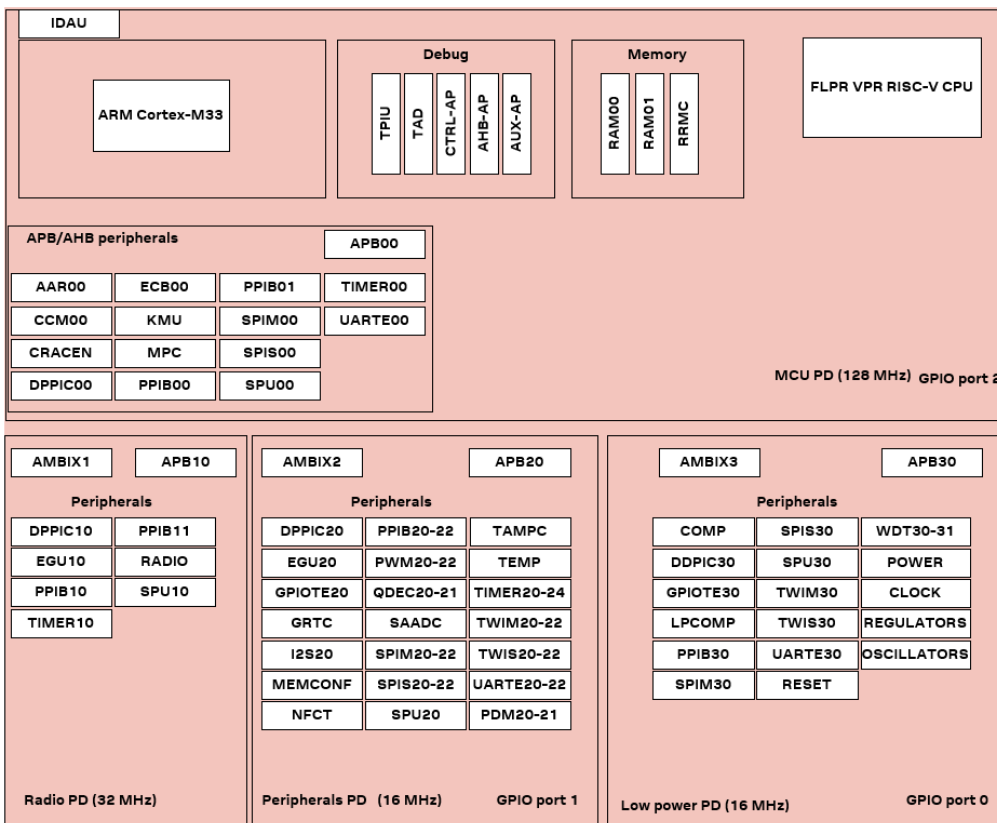

Figure 2: Power domains
NORA-B2 features multiple Power Domains (PD) for low-power operation, including fast MCU and lower speed domains. Figure 2 shows the power domains, the integrated ARM Cortex processor, peripherals, and other functional units supported in NORA-B2, which feature:
Three of the power domains have their own GPIO ports. The GPIO pins can be used by peripherals in the same power domain. Selected port 2 pins, **P2.00-P2.10**, can be used for some serial interfaces in the peripheral domain SPIM, SPIS, andUARTE. For information about each instance's power domain and the related GPIOs, see Figure 2. Refer to nRF54Lxx datasheet [4] for more information, and the interconnections between different power domains.